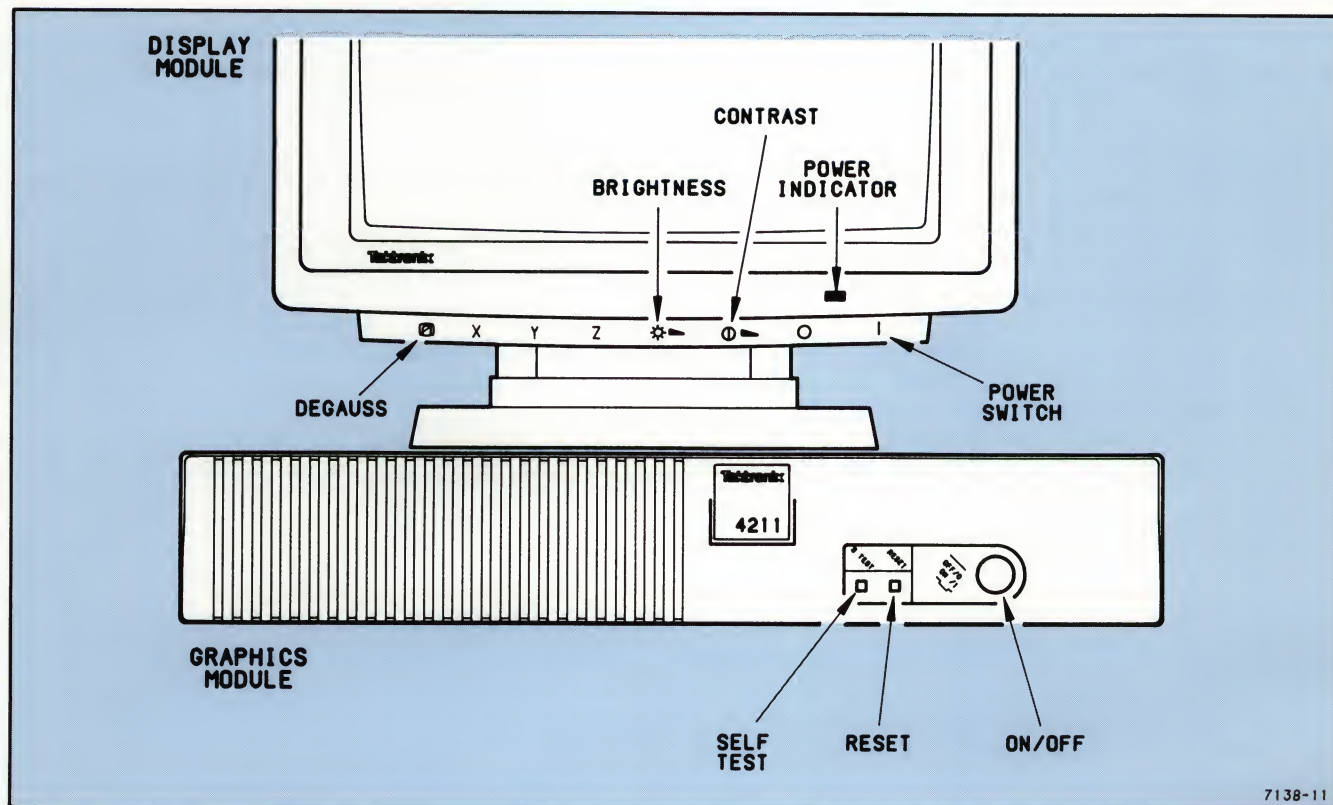

Figure 2-15. Front View.
2. Press the POWER switch on the front panel of the Display module, and the POWER switch on the front of the Graphics module (refer to Figure 2-15). The 4211 will run Power-Up Self-Test, which takes about 30 seconds. If a cursor doesn't appear after about 30 seconds, refer to "Running Power-Up Self Test" just ahead.